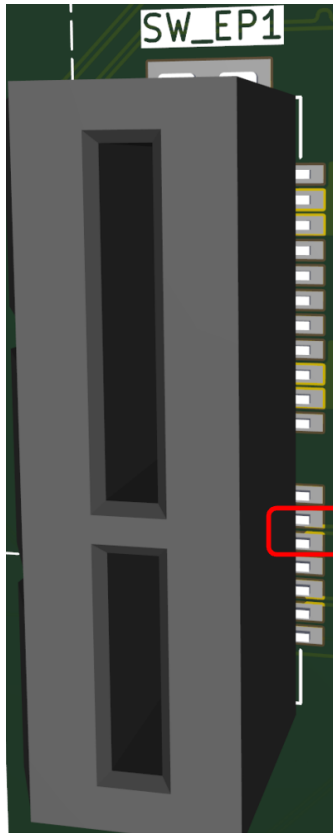

Figure 5: Measurement points on SW\_EP1
- Probe the clock pins (A13/A14) on **SW\_EP1**. Refer to **Figure 5**.